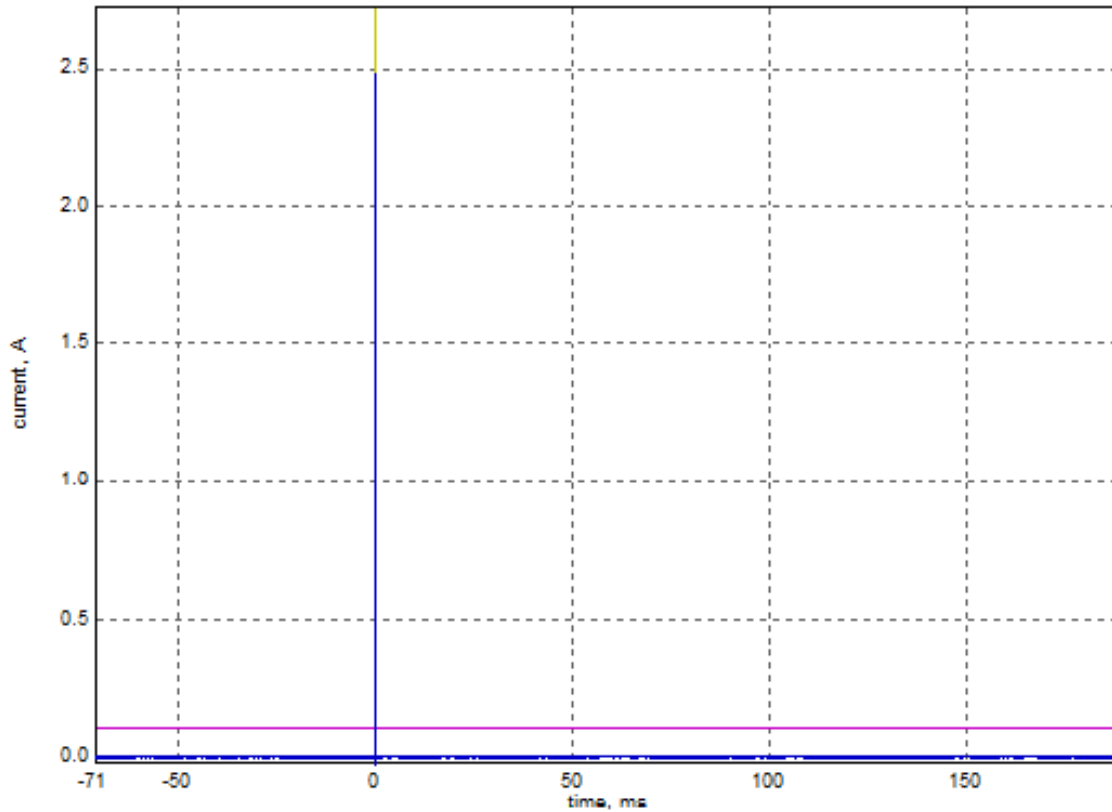

Figure 15. Device Inrush Current Test Result
6. Use the analysis software "USBET20" on Computer to analyze the waveform file, then a page shows the test result as shown in Figure 15 below. The failures for Inrush mostly occur due to a too large capacity between **VBUS** and **GND**.